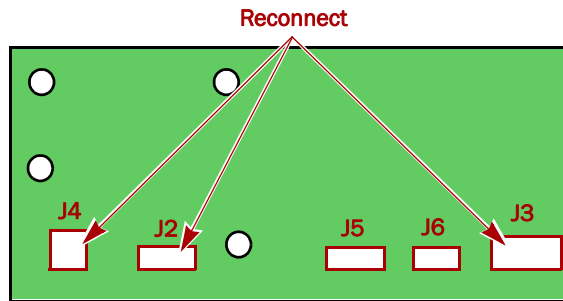

Figure 3-15: Reattach the J2, J3, and J4 Drive PWA Connectors
- b. On the Drive PWA, reattach the **J2**, **J3**, and **J4** cables (Figure 3-15).